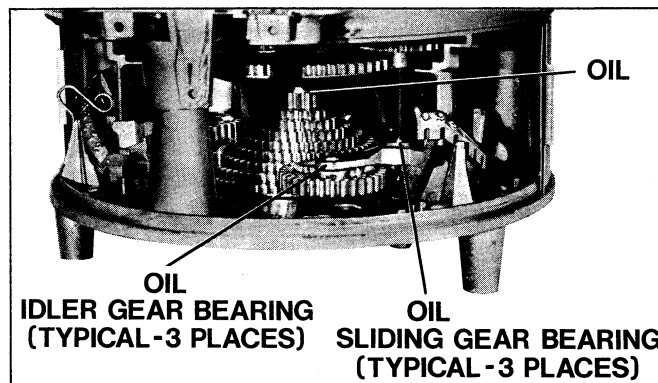

Figure 3. Variator Section Lubrication Points.
2. Oil the sliding gear bearing and the idler gear bearing in each of the three range arm groups in the variator section (Figure 3).
3. Oil the surface where the 1/10¢ integrator gear contacts the top of the cone gear in the variator section (Figure 3).